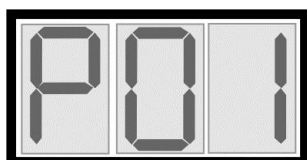

Fig. 3
5. When the password has been accepted, the screen accesses the list of programming steps directly. The first programming step **P01** is selected automatically (Fig. 3).